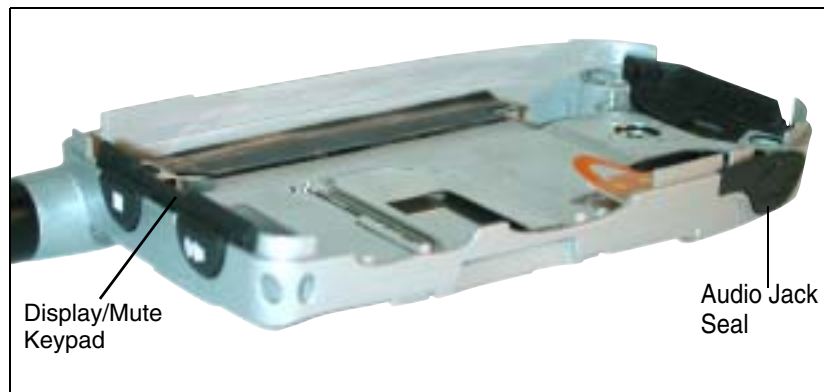

Figure 7-4.
1. Locate Display/Mute Keypad and Audio Jack Seal in the Front Housing (see Figure 7-4). Grasp and pull pad or seal straight out.